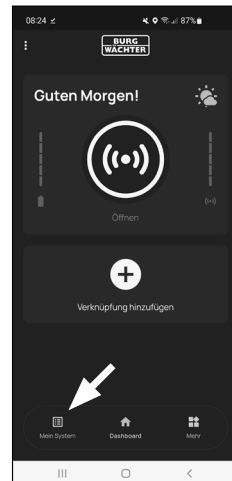

Fig. 4
- 7 The *BURGS*mart app main screen appears. Open the "*My System*" menu at the bottom left (Fig. 4).